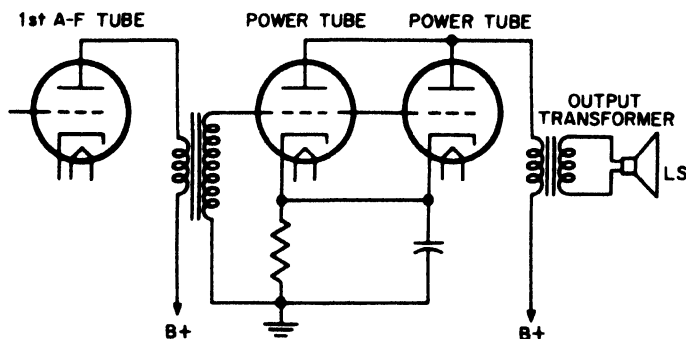

Fig. 27-3. Circuit showing how two power tubes are connected in parallel to handle greater power.
**Two Power Tubes in Parallel.** Sometimes the power required for the loudspeaker is too great for a single tube to handle. In such cases, we can connect two identical power tubes in *parallel*. The grid of one tube is connected to the grid of the other, the plate to the other plate, and the cathode to the other cathode (Fig. 27-3).